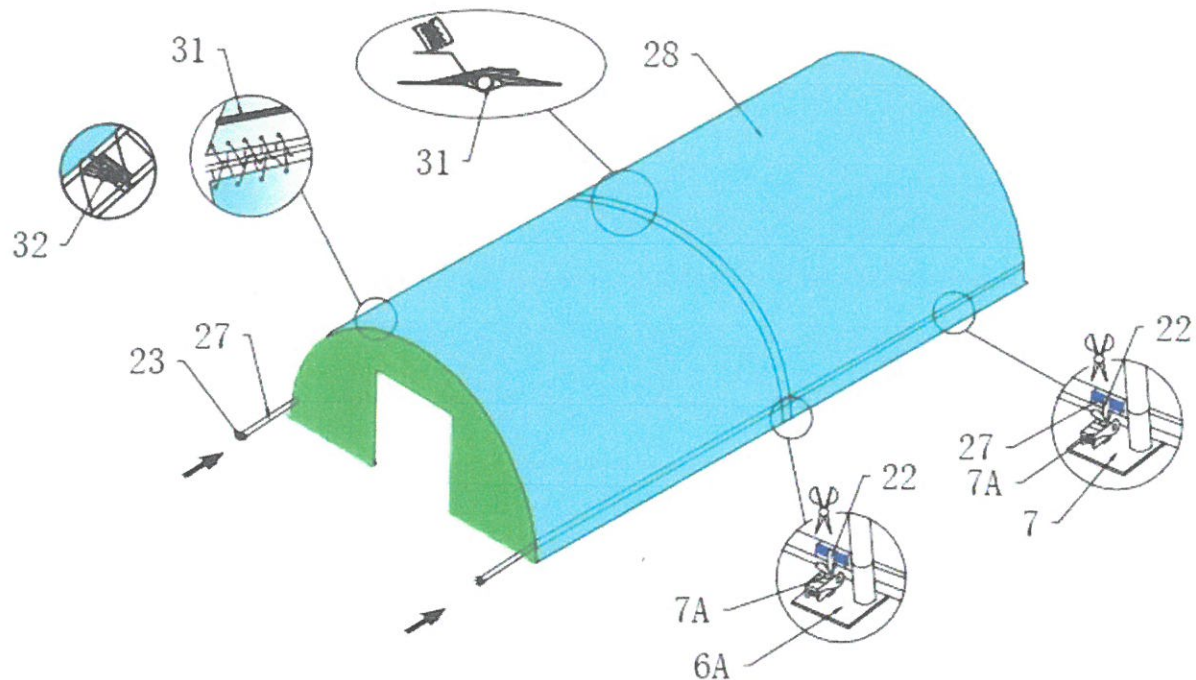

Figure 14
2. Cut pockets just above the ratchet (7A), let the tensioning tube (27) come out, use the belts No.22 to tie the tube onto the ratchets, thus adjust the ratchet could fasten the roof cover.
3. For 4010020, the roof cover is 2 pcs, so there is PVC tube No.32 that need insert into cover pocket to help to tie onto the steel frame. (Figure 14)